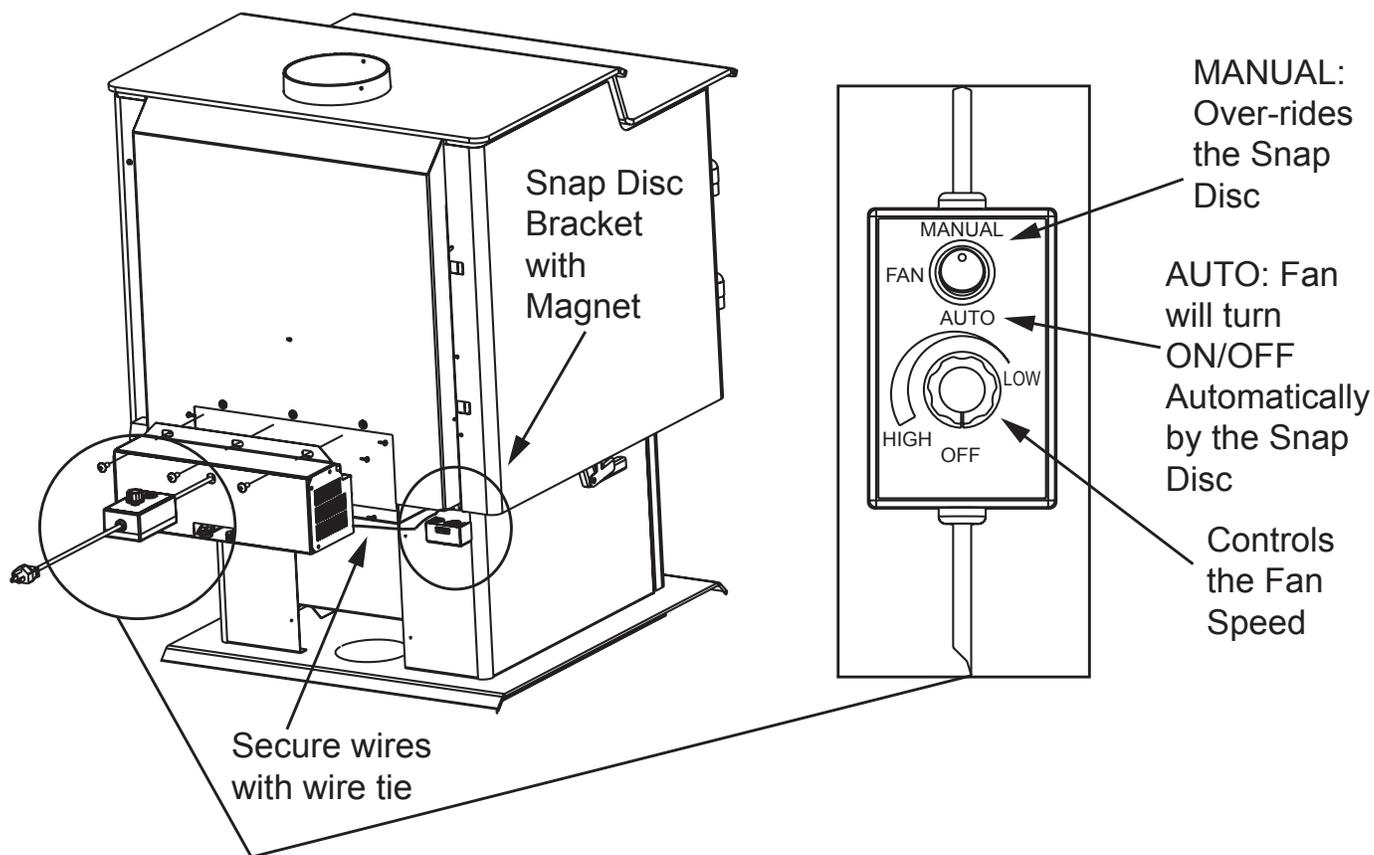

Figure 26.1
2. Align holes in mounting flange of blower with bolt holes in appliance. Blower should be positioned at bottom of rear outer skin as shown in **Figure 26.1**